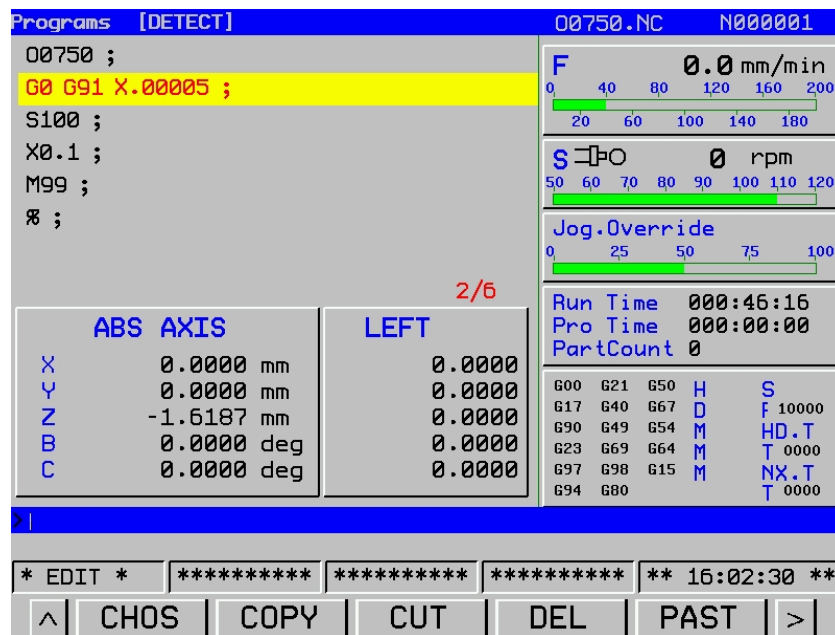

Fig. 3-2-19
(2) Press key **【OPT】** to enter the following figure.
(3) Press key **>** to enter the following figure.
(4) Press page key ,  or cursor key ,  to move target line of copy. See Fig. 3-2-19.